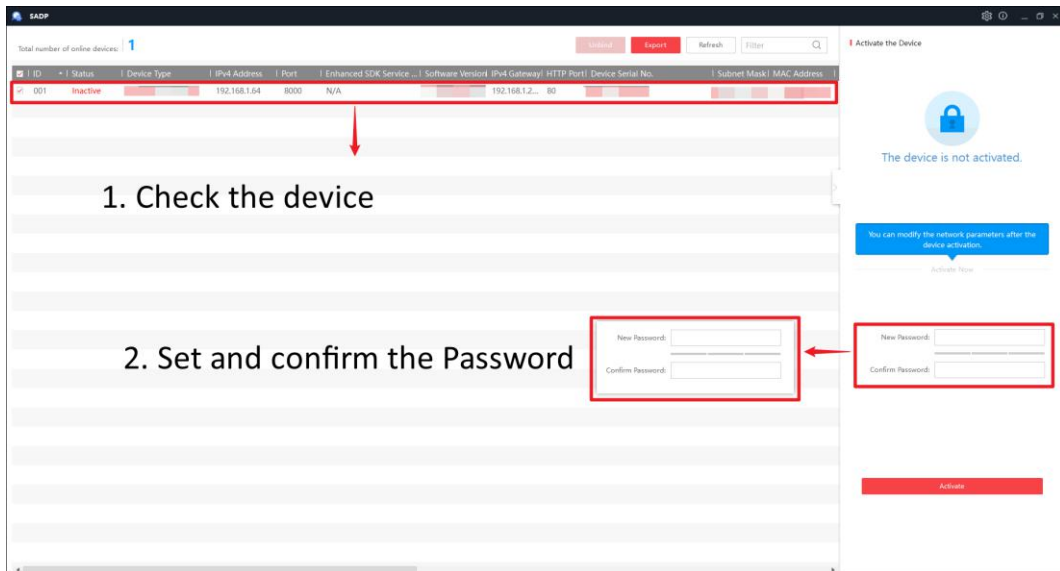

Figure 6-1 Activate Camera
- Step 2 Check the device to be activated, set the device password at "Activate Device", and click "Activate" to complete activation, as shown in Figure 6-1.